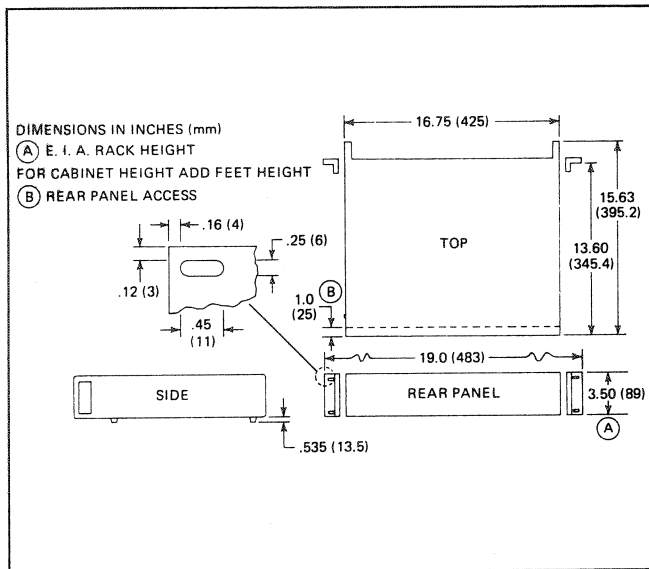

Figure 1.6 - Dimensions
1.53 A dimensional outline of the 8000B series counter is shown in figure 1.6.